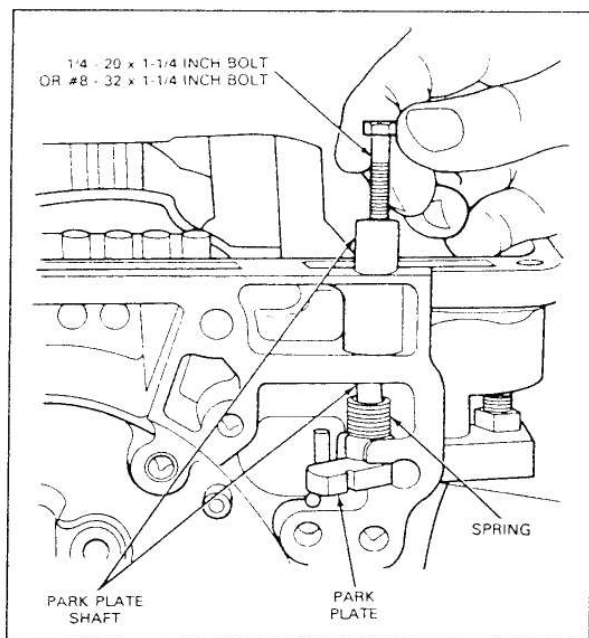

FIG. 32 Removing Park Plate
- Thread a 1/4-20 inch or 8-32 x 1-1/4 inch screw (Fig. 32) into the park plate shaft. Pull the shaft from the case with the screw. Remove the spring and park plate.